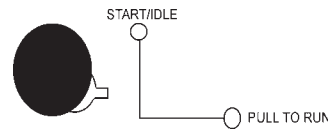

Figure 42. Engine Speed Switch (high)
8. Once the engine is warm and the engine is running properly, pull and turn the engine throttle control lever to 'High' (Figure 42).